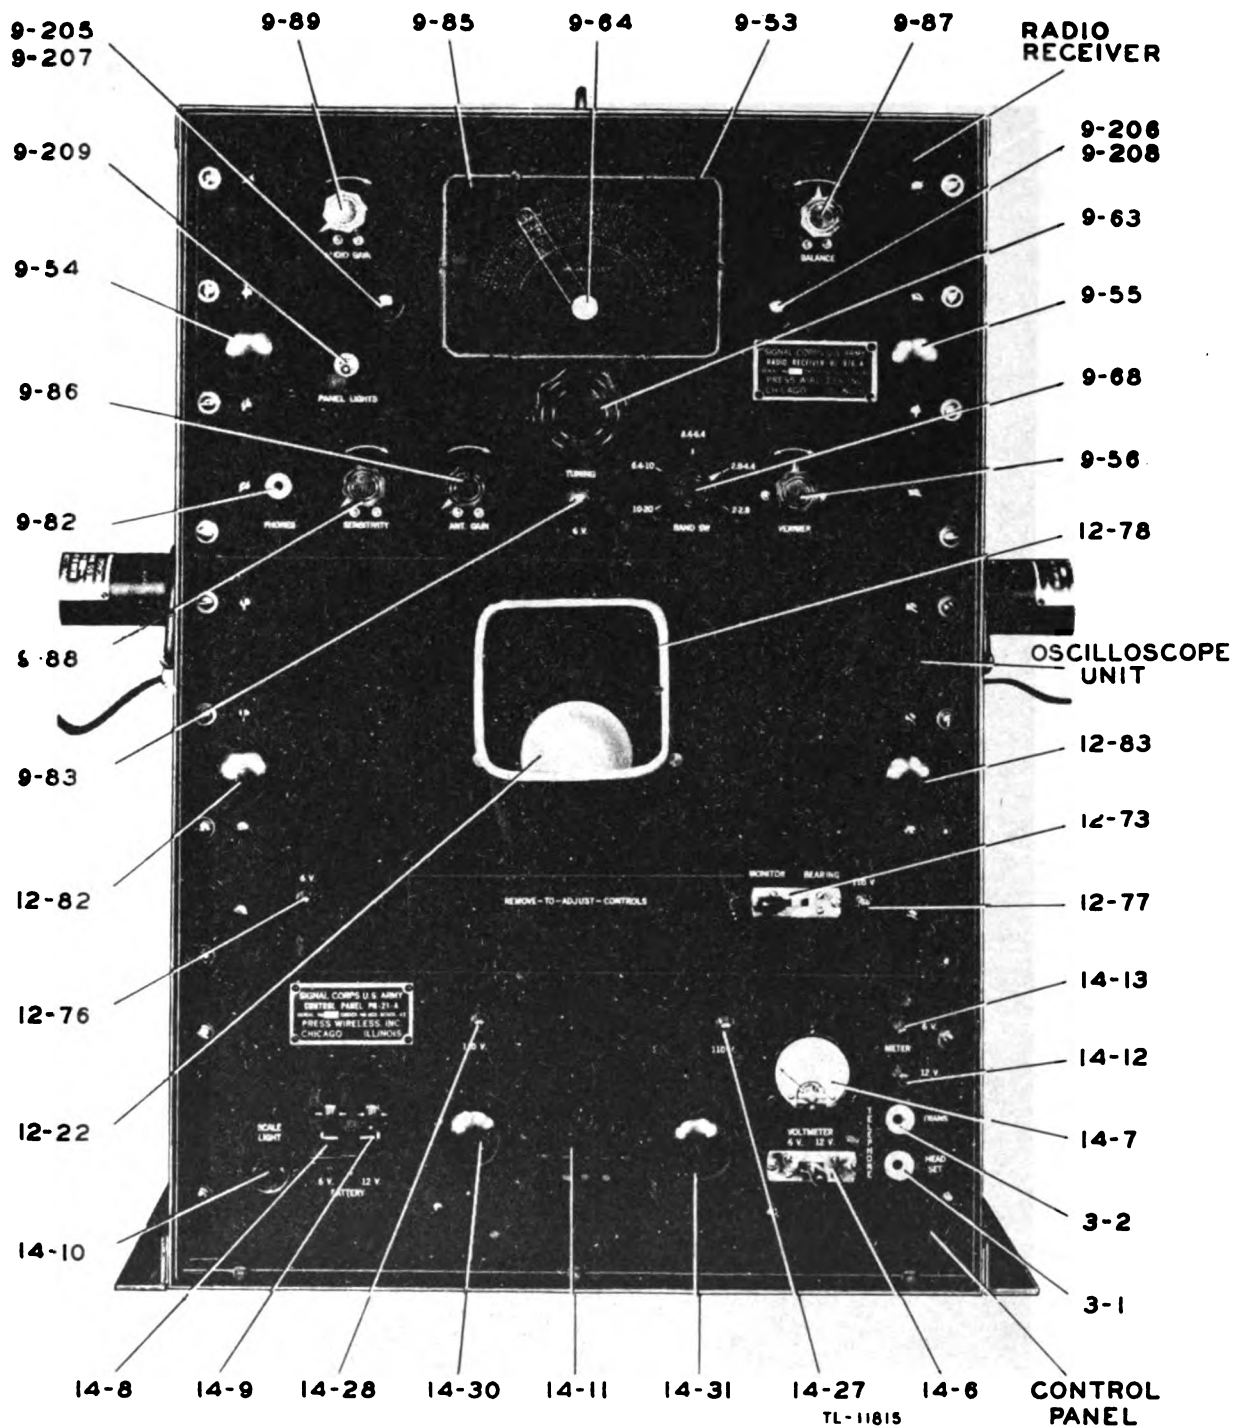

Figure 4. Radio Set SCR-551-A, central unit front panel assembly.
a. Radio Receiver BC-976-A. This item occupies the top section of Central Unit Cabinet CS-121-A (figs. 4 and 5). This receiver is a superheterodyne using 13 tubes with radio-frequency input circuits provided to accept signals from a vertical sense antenna and an Adcock directional antenna system. Controls for frequency selection, tuning, and adjusting gain of the various circuits, all clearly labeled, are located on the front panel of the receiver. A panel light switch and a telephone jack are also provided.
c. Oscilloscope BC-991-A. This item occupies the center section of Central Unit Cabinet CS-121-A (fig. 4). A power supply, am-
d. Control Panel PN-21-A. This item contains the primary power controls for Radio Set SCR-551-(), and is located in the bottom section of Central Unit Cabinet CS-121-A (fig. 4 or 6).
(1) The twin circuit breaker marked